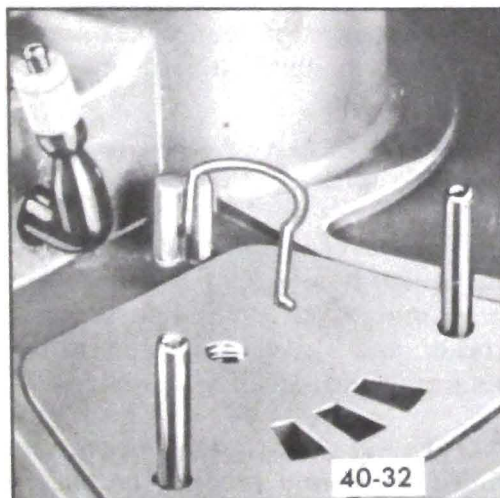

Figure 40-37 - Installing Valve Tension Spring in Boss
3. Install longer foot of valve tension spring in boss on first stage housing being careful not to distort spring. See Figure 40-37.